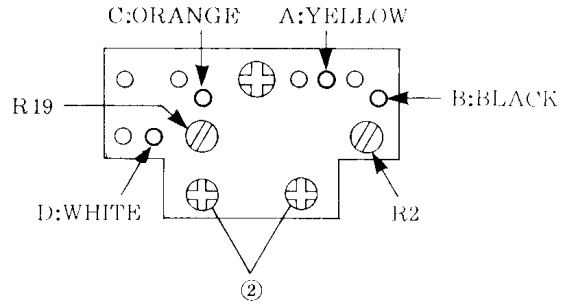

Fig. 1-3-2
Take care not to turn the VRs (R2, R19) shown in Fig. 1-3-2. Those VRs are factory adjusted.
2. Peel the cushion ⑤.
3. Remove four wires A, B, C and D shown in Fig. 1-3-2 from MIC board of the microphone unit.
4. Remove the screws ② shown in the Fig. 1-3-2, then take out the microphone unit.
5. When attaching the microphone unit, refer to the Fig. 1-3-2 to take care of the color of wires